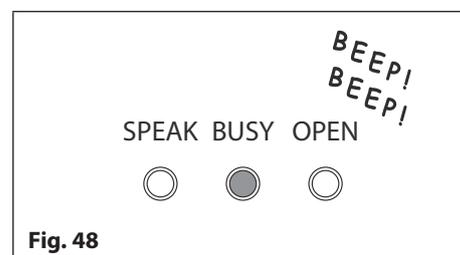

Fig. 48
4. Two short beeps will be heard from the GSM module and the busy LED will switch ON, as shown in **Fig.48**;